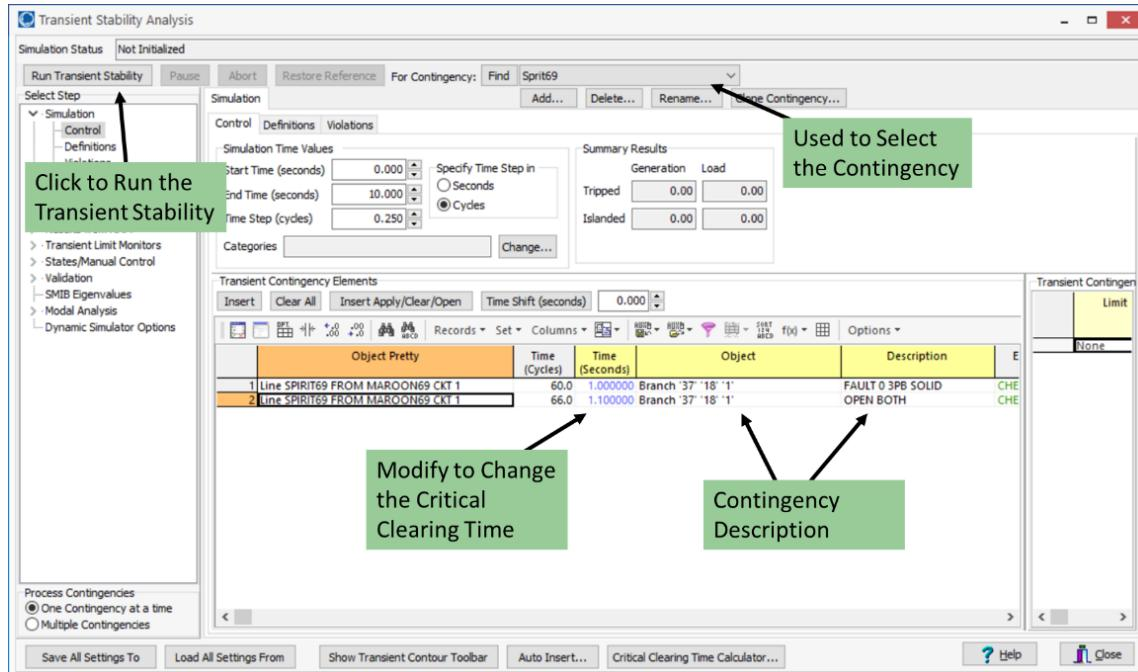

Figure 2: Transient Stability Form
1. Start PowerWorld Simulator. Open the Project _2 case. The system has been set up to run transient stability with several contingencies predefined for the lab. Select **Add Ons**, **Transient Stability** to display the Transient Stability form. This add-on will be used throughout the lab for transient stability simulations, as shown in Figure 2.